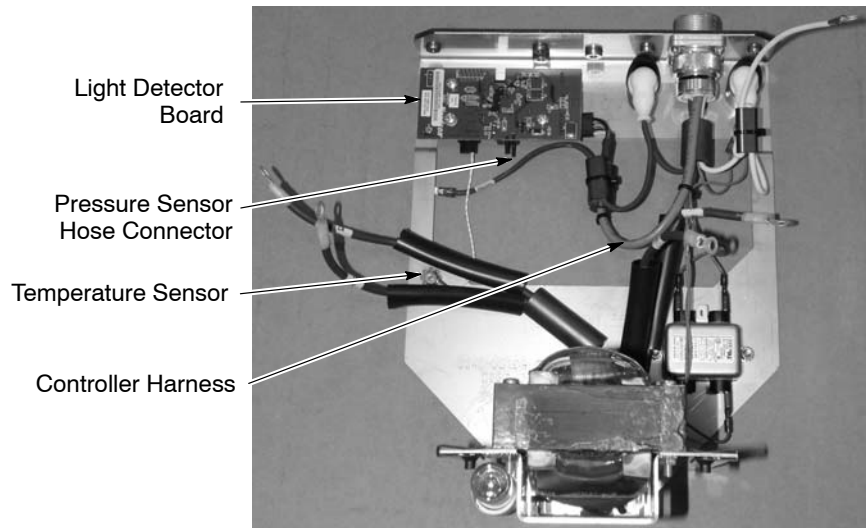

Figure 6-23 Light Detector Board Replacement (External Blower Version Shown)
2. See Figure 6-23. Disconnect the temperature sensor harness, the controller harness, and the pressure sensor hose from the light detector board.
See Figure 6-23. The internal temperature sensor (thermistor) is also replaceable separately. It consists of a two-wire harness with plug and ring-tongue terminal. The thermistor is potted to the ring-tongue terminal.